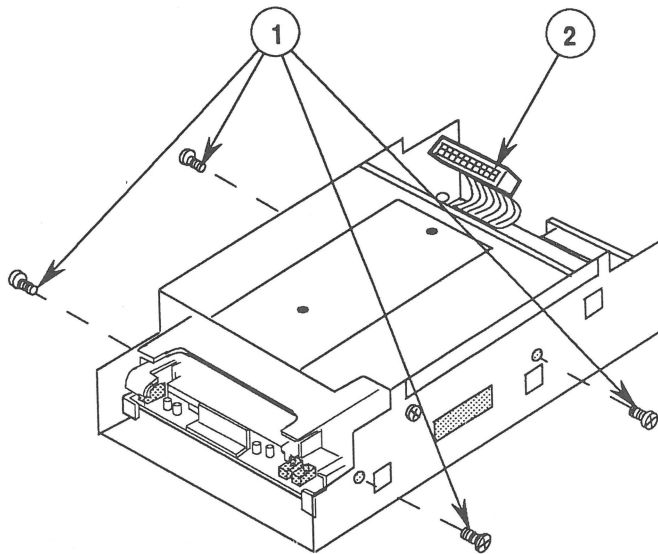

FIGURE 15
3. Remove the four screws (two screws from each side) (Figure 15, #1) from the outer metal shield.
4. Disconnect cable connector CN102 (Figure 15, #2) from the drive mechanism.